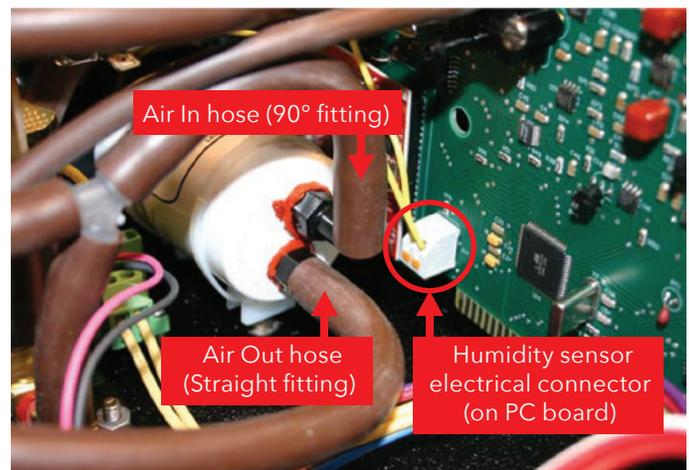

Figure 2. THE TWO HUMIDITY SENSOR AIR HOSES. (some components removed for greater clarity)
4. Using a tubing wrench or vacuum tubing pliers, carefully remove the two air hoses connected to the existing humidity sensor. Refer to Figure 2.